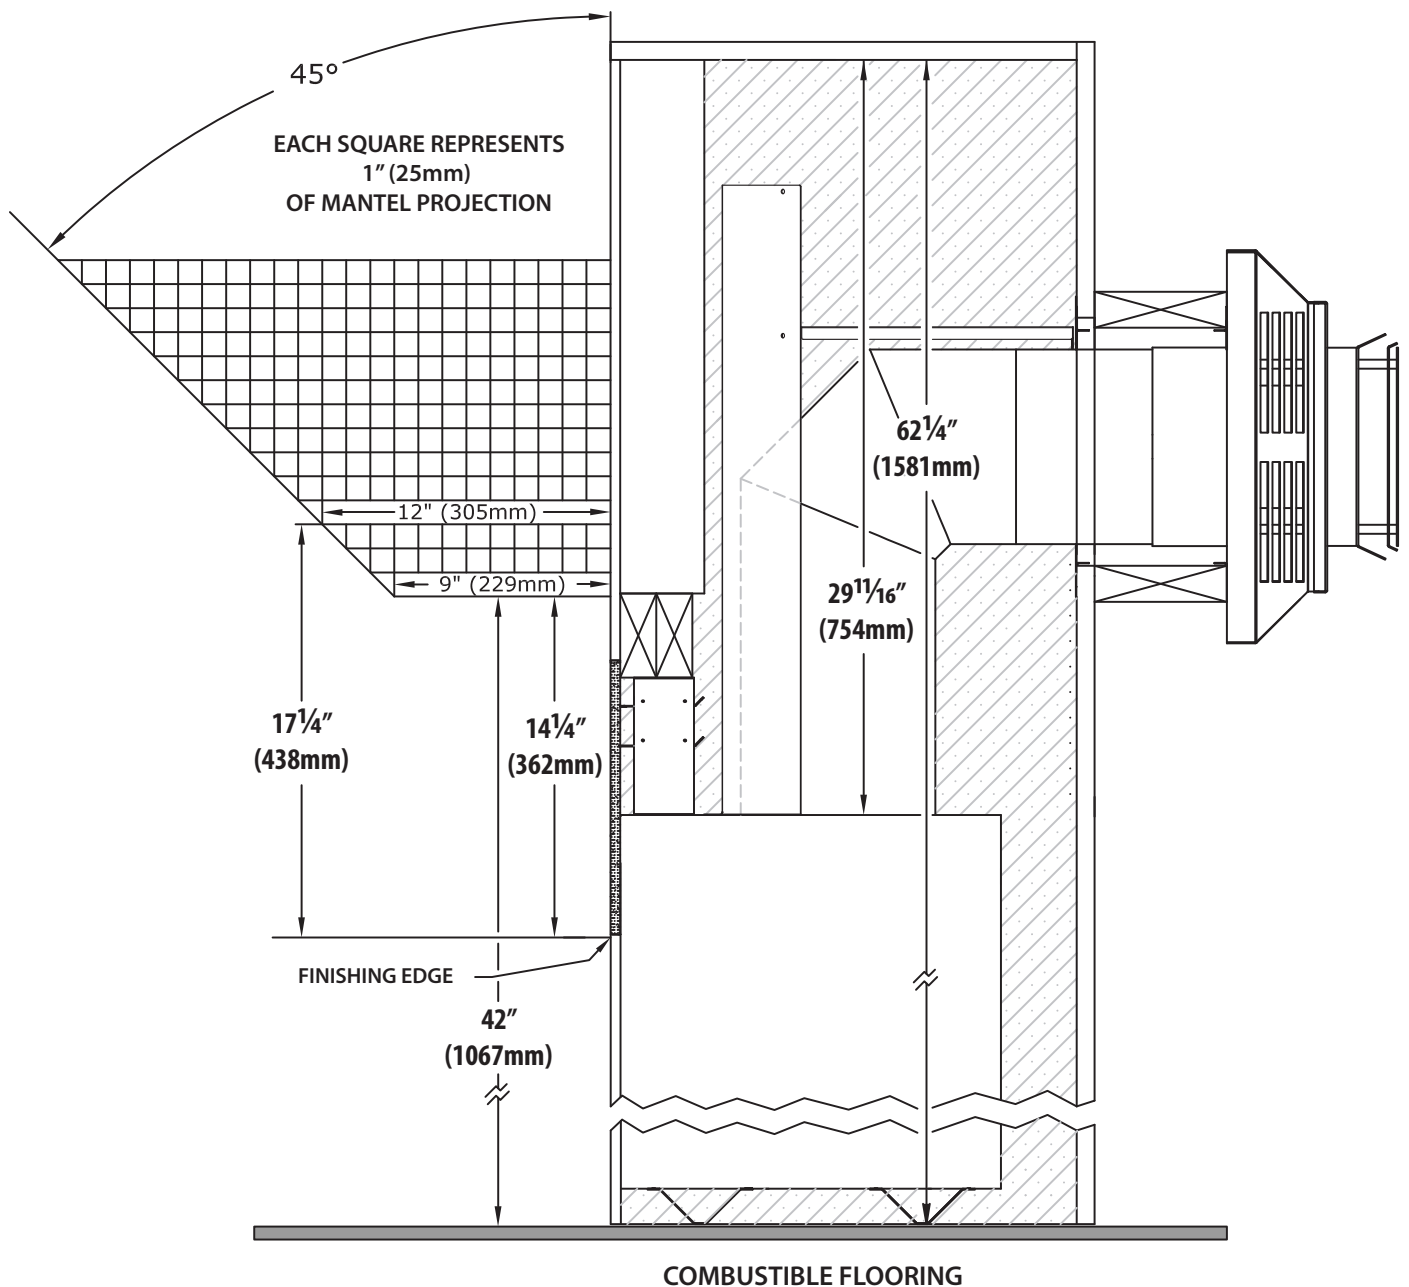

FIGURE 4.1 Mantel Requirements
- Combustible Mantel Projections - As referenced in **FIGURE 4.1** on page 21, the 9" (229mm) mantel can start at 14-1/4" (362mm) above the finishing edge. Mantel projections can increase 1" (25mm) of depth for every 1" (25mm) of height starting at the 9" (229mm) mantel.